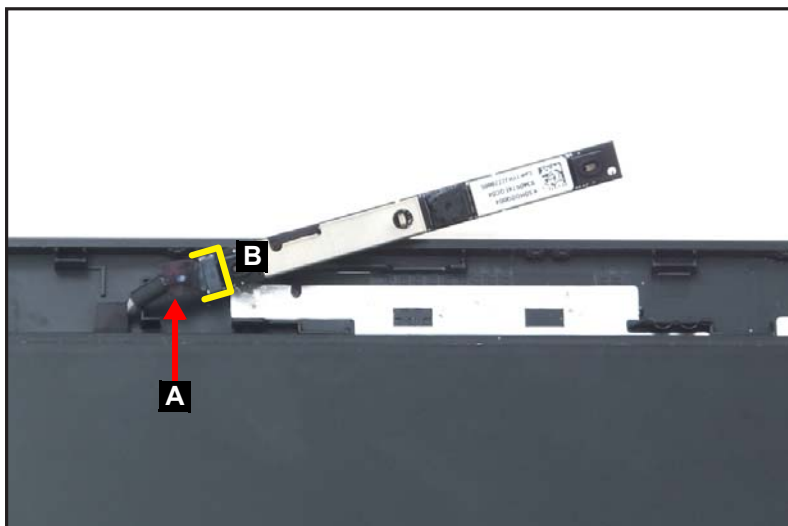

Figure 1-72. Replacing the Camera Module
1. Connect the eDP cable (A) to the camera module connector (B) (Figure 1-72).